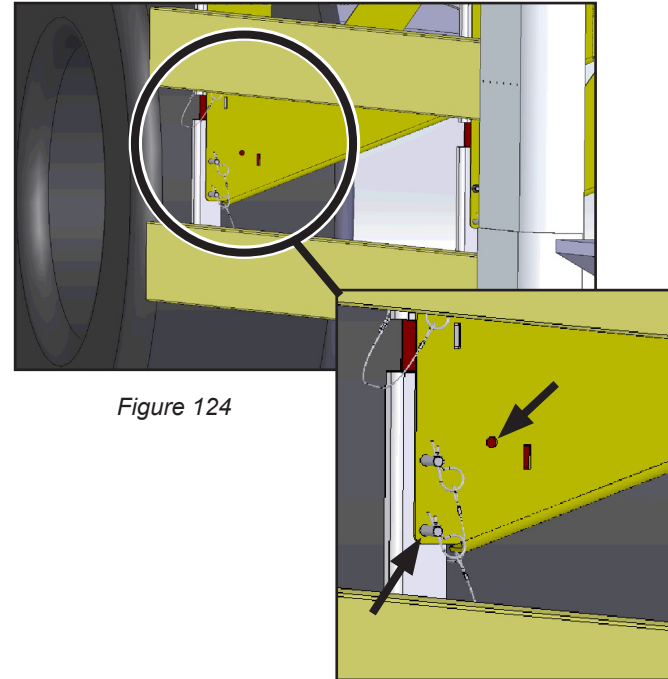

Figure 124
1. To rotate the bottom rail of the lateral protection device up for increased ground clearance, hold onto the rail assembly and remove the **lower pin** from both sides of the bottom rail (Figure 124).
2. Rotate the bottom rail assembly up until the open holes on the LPD rail and the LPD gusset align (Figure 124).